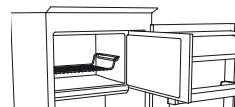

Figure 1
- arrange the food directly on the bottom of the compartment (figure 1 and 2)
- put the food in the middle of the ******* compartment without it coming into contact with food that is already frozen, keeping a distance of about 20 mm (figure 1 and 2).
The STOP FROST SYSTEM (available depending on the model) facilitates the defrost procedure for the freezer compartment. The STOP FROST accessory (figure 1) is designed to collect some of the frost that forms in the freezer compartment and it is easy to remove and clean, therefore reducing the time needed to defrost the inside of the freezer compartment.